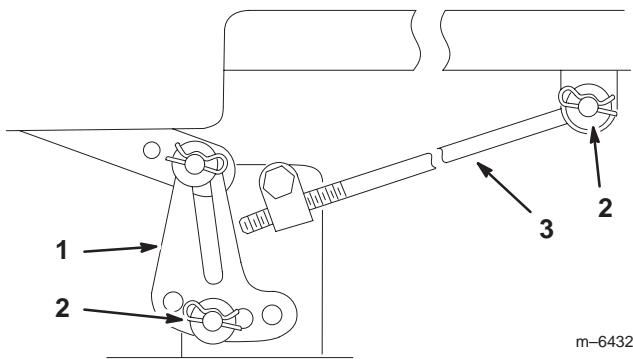

Figure 46
Note: Before removing the mower, make a note for which holes are used in the leveling brackets (Fig. 46).
5. Remove the hairpin cotter and washer from the adjusting rod (Fig. 46) on each side of the mower.
6. Remove the hairpin cotter and washer at the mower leveling brackets (Fig. 46) on each side of the mower. Note which hole the leveling bracket is mounted in for future installation. Slide the brackets off of the mounting pin.
5. Attach the adjusting rod to the tractor with the washer and hairpin cotter (Fig. 46) on each side of the mower.
6. Slide the leveling brackets onto the mounting pins and secure them with the washers and hairpin cots (Fig. 46).